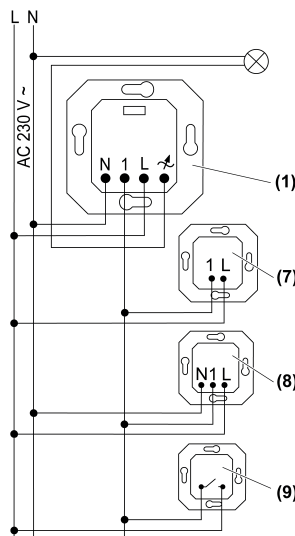

Figure 2: Connection diagram with optional extensions
- Connect the load according to connection diagram (Figure 2).
- i** The light can be switched by briefly pressing the **Dimm-Mode** button (4).
- Attach the frame (2) and the top (3).